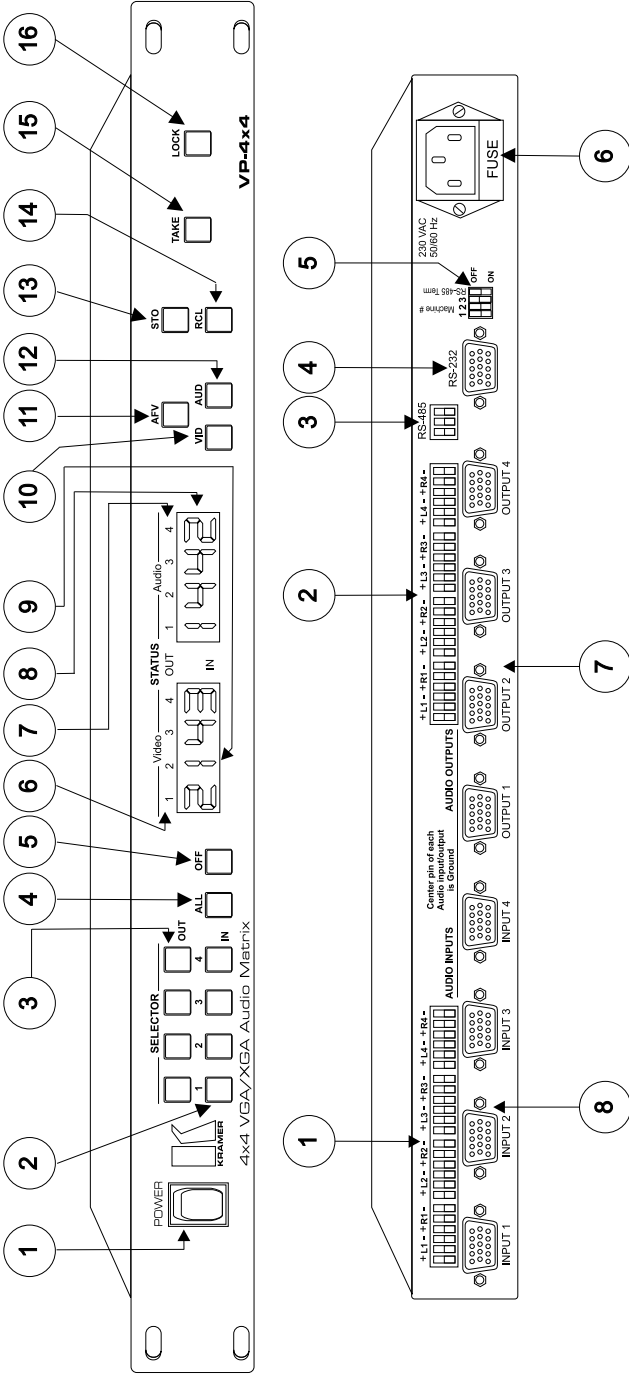

Figure 1: VP-4x4 VGA/XGA Audio Matrix Switcher
Figure 1 illustrates the front and rear panels of the **VP-4x4**. Tables 1 and 2 define the front and rear panels of the **VP-4x4**, respectively.
2 Via the Video IN STATUS 7-segment display as item 9 in Figure 1 illustrates
3 Via the Audio IN STATUS 7-segment display as item 8 in Figure 1 illustrates